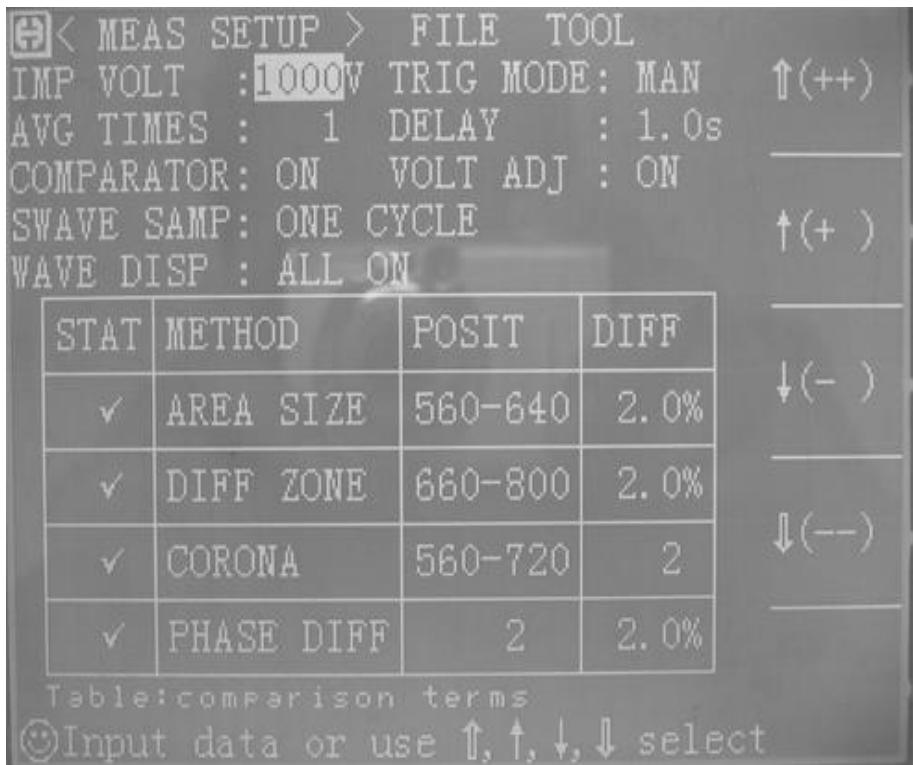

Figure 2-5 **IMP VOLT** Field on MEAS SETUP Page
- 2) Press key to move the cursor to the **IMP VOLT** field, the following page will be displayed as shown in figure 2-5